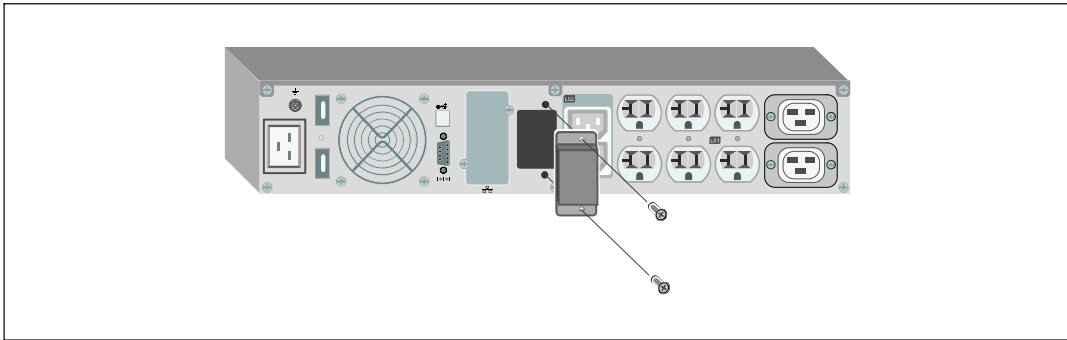

Figure 26. Removing the Battery Connector Cover
- 1 Remove the battery connector cover from the rear panel as shown in Figure 26. Retain the cover and screws.